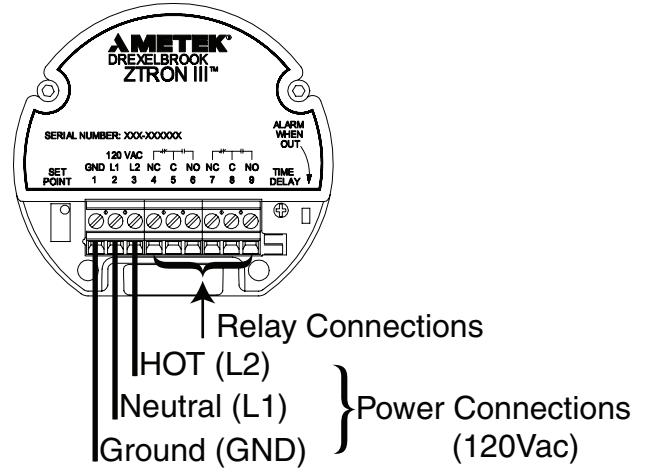

Figure 2-5
Refer to Figures 2-5 through 2-7 for the appropriate power wiring and use the following procedure to wire the Z-tron III level control:
3. The power connections are made to terminals 1, 2, and 3 on the electronic chassis as shown in Figures 2-5 through 2-7, using 12-28 gauge wire. The Z-tron III level control requires at least 1 watt of power.